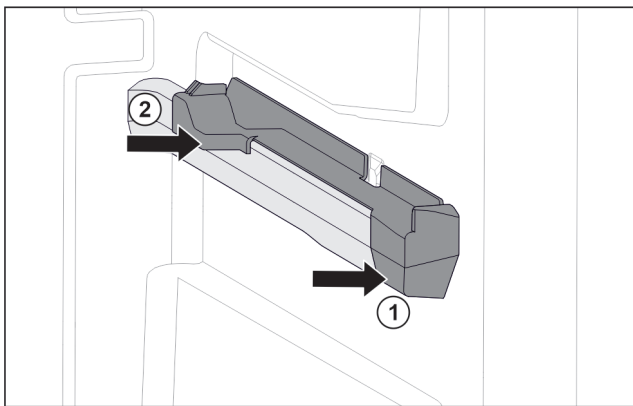

Fig. 127 Attachment on the right moulded rib
- ▶ Position attachment on moulded rib at the front. *Fig. 127 (1)*
- ▶ Press on attachment at the back. *Fig. 127 (2)*